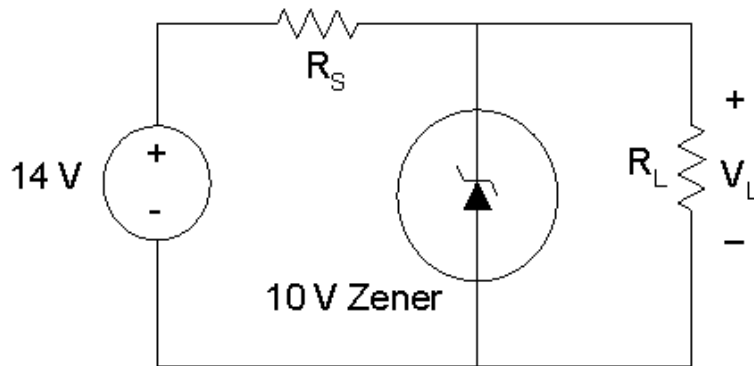

Figure 6-3 Voltage Regulator Using a Zener Diode
The Zener diode can maintain a reasonably flat reverse voltage over a range of diode currents. When the diode is used in as a shunt regulator in Figure 6-3, excess current not drawn by the load is passed through the diode, providing a constant voltage to the load resistor.
2. Construct the circuit given in Figure 6-3, using the DC power supply for the voltage source, a 1N4740 for the Zener diode, and 100Ω for R_s . For R_L , use the Clarostat 240-C Power Resistor Decade Box. NOTE: *Do not use the Heathkit 1N-3117 Decade Resistance; it can not safely dissipate enough power.*